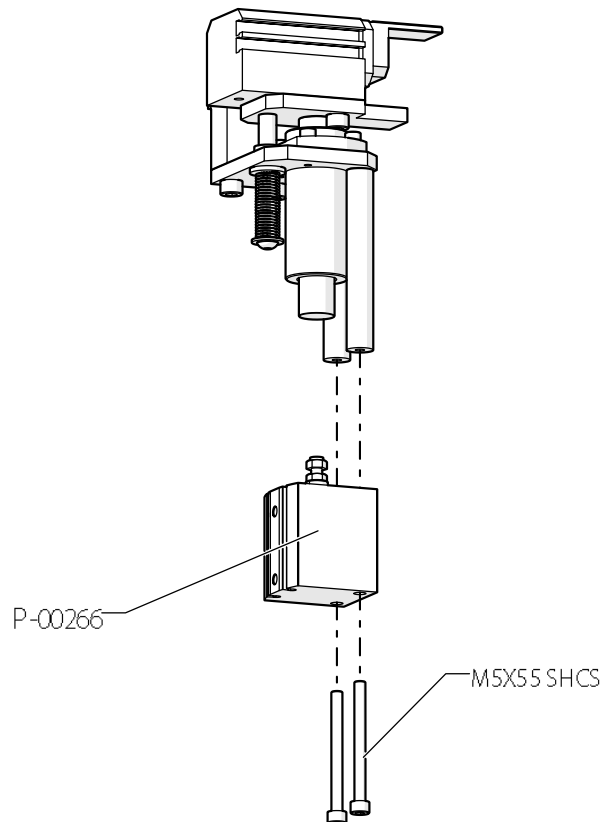

Figure 31: Removing P-00266
**Step 1:** Remove M5X55 SHCS as shown in Figure 31.